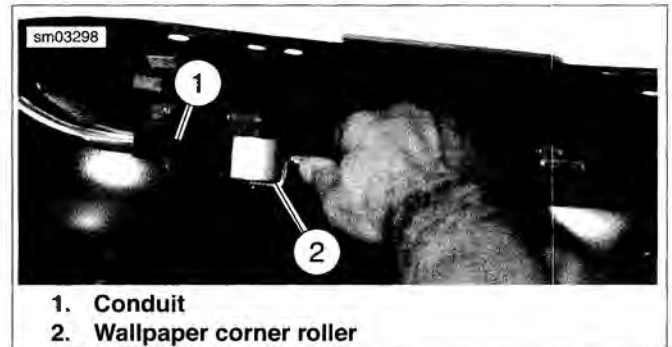

Figure 2-119. Purging Air Between Adhesive and Fender
9. See Figure 2-119. Using a wallpaper corner roller (available at most home improvement stores), roll along conduit to purge the air from between the adhesive and the fender.